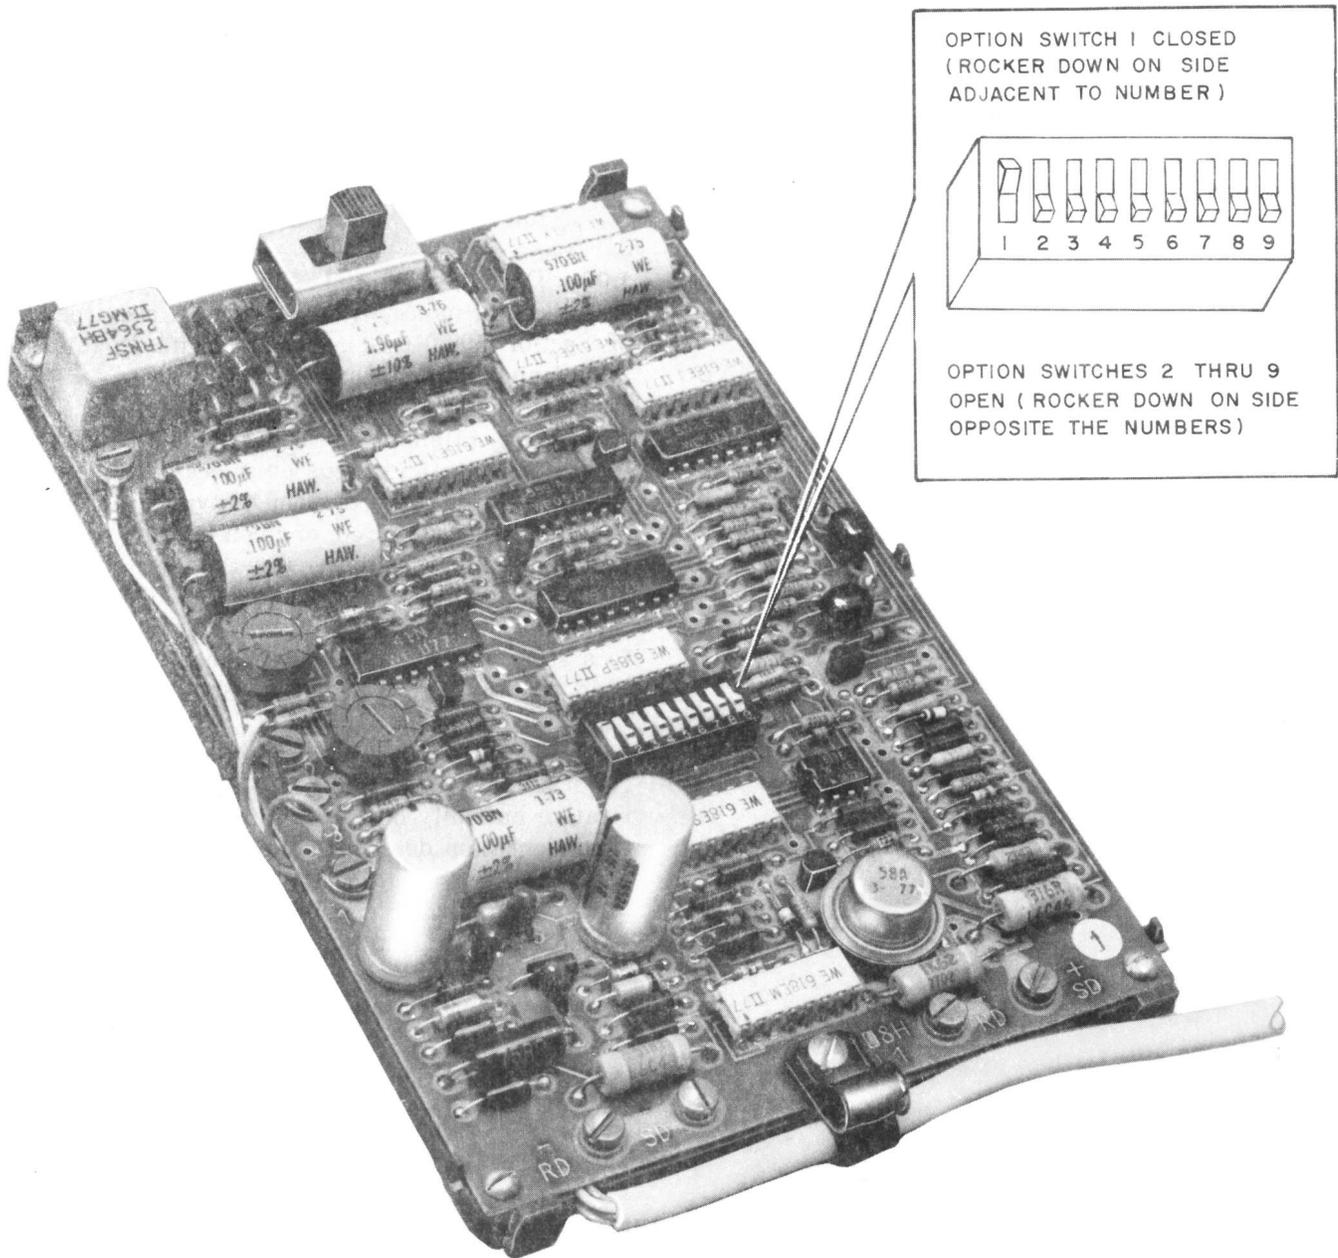
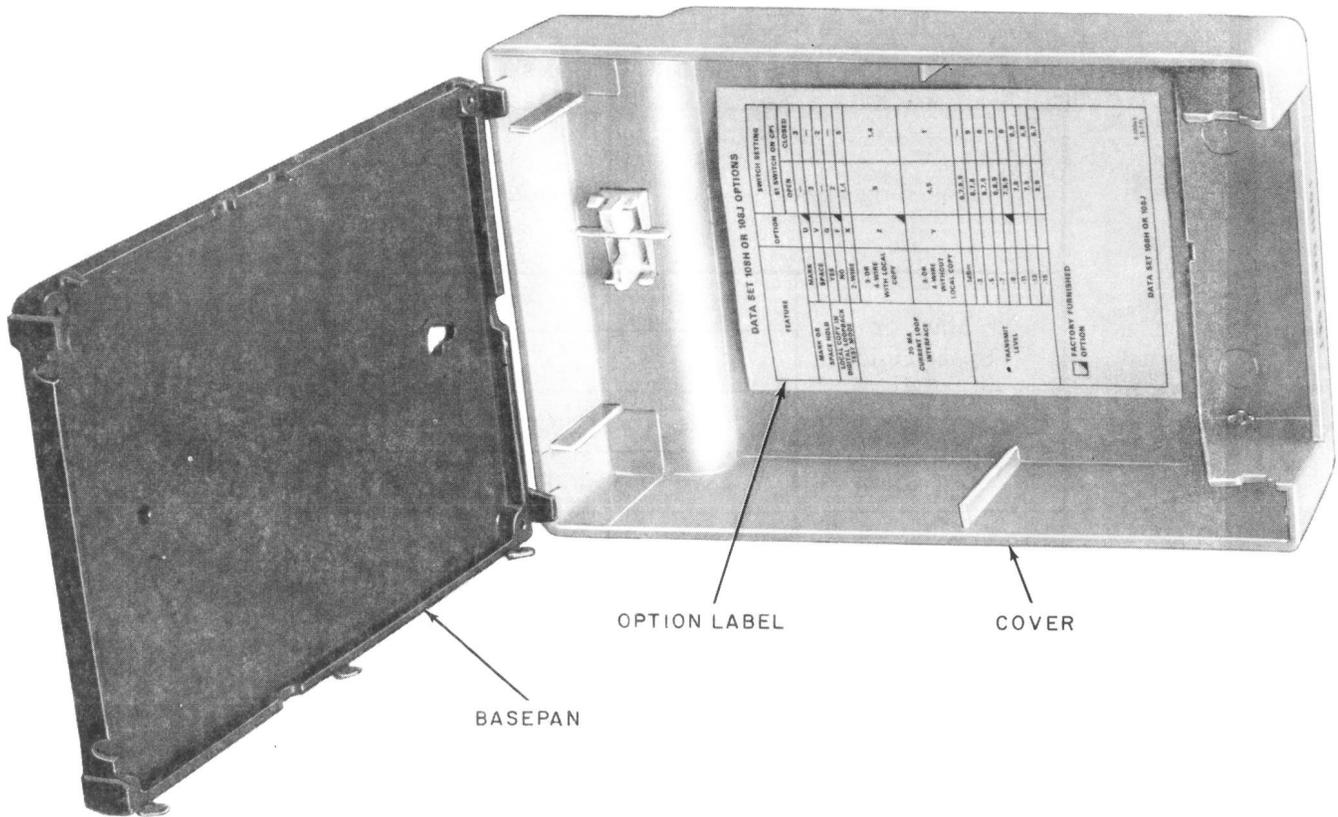

Fig. 2—Circuit Pack of DS 108H Showing Detail of Option Switch S1 (Similar to DS 108J)
Fig. 3—DS 108H or J Housing With Option Label Installed
**2.01** The DS 108H and J are provided with a number of options which are installed prior to placing the data set in service. All options are installed or removed with the switch (S1) shown in Fig. 2. Each option and associated switch setting is listed in Table A. Similar information is contained on the option label located inside the cover of the data set housing (Fig. 3). Additional option labels may be obtained by ordering Form E-10065.